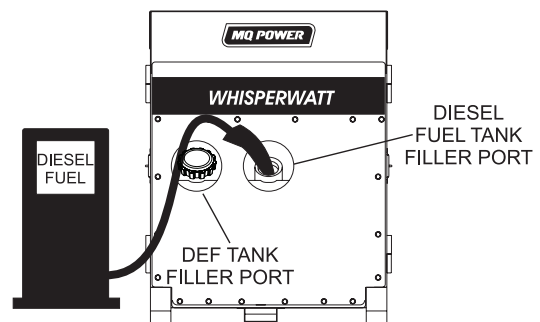

Figure 38. Fueling The Generator
2. Remove the fuel cap and fill the tank as shown in Figure 38.